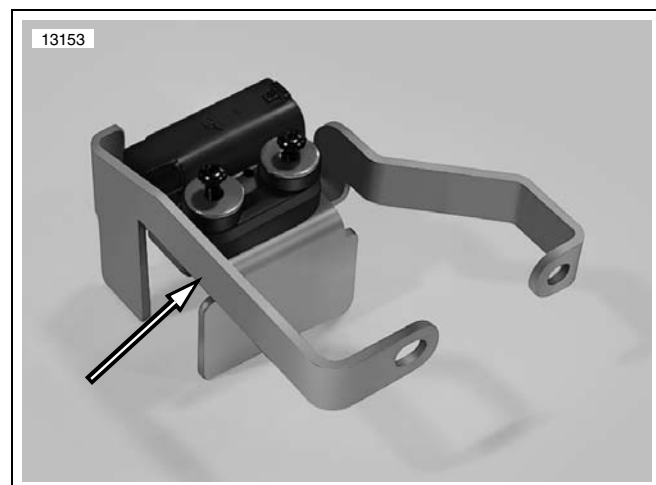

Figure 2. Bank Angle Sensor Bracket (Mounting bracket turned upside down for clarity)
1. See Figure 2. Install bank angle sensor to the underside of the mounting bracket with original fasteners. Tighten fasteners to 12-36 **in-lbs** (1.4-4.1 Nm).